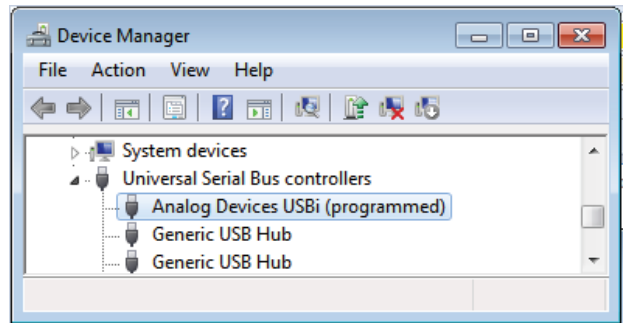

Figure 10. Confirming Successful Driver Installation Using the Device Manager
- In Windows **Device Manager** under the **Universal Serial Bus controllers** section (see Figure 10), check that **Analog Devices USBi (programmed)** is displayed.